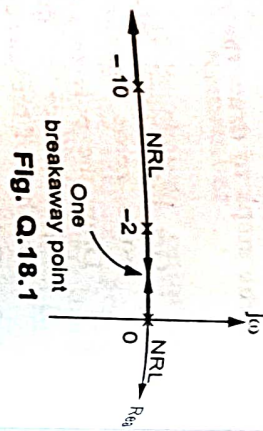

Fig. Q.18.1
Step 2 : Sections of real axis as shown in the Fig. Q.18.1.